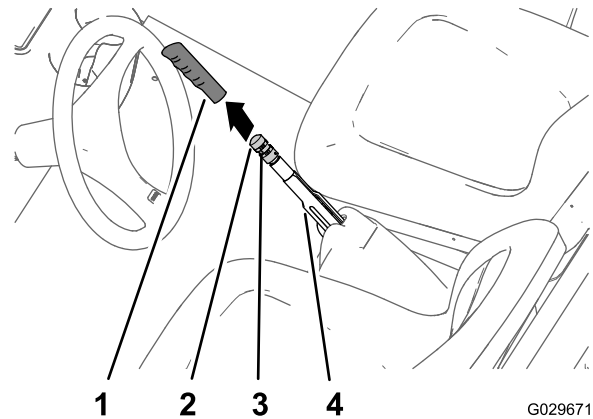

Figure 53
1. Remove the hand grip from the parking-brake lever (Figure 53).
2. Loosen the set screw securing the brake-adjustment knob to the parking-brake lever (Figure 53).
3. Rotate the brake-adjustment knob until a brake-lever force of 133 to 156 N-m (30 to 35 ft-lb) is required to set the parking-brake lever (Figure 53).
4. Tighten the set screw and install the hand grip (Figure 53).
1. Remove the hand grip from the parking brake (Figure 53).
2. Loosen the set screw (Figure 53) securing the brake-adjustment knob to the parking-brake lever, release the parking brake, and loosen the brake-adjustment knob.
5. Rotate the brake-adjustment knob (Figure 53) until a force of 133 to 156 N-m (30 to 35 ft-lb) is required to set the parking-brake lever.
- C. Rotate the brake-adjustment knob (Figure 53) until a force of 133 to 156 N-m (30 to 35 ft-lb) is required to set the parking-brake lever.
- Tighten the set screw and install the hand grip (Figure 53).